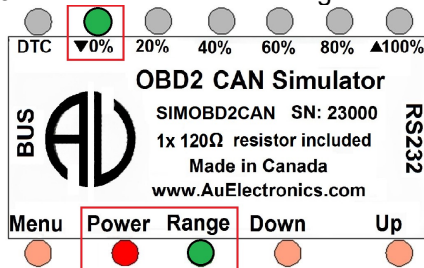

Figure 3-3
- If keep pressing **Up** button, the control step value will keep increasing. The 0% LED will be constantly on, as shown in Figure 3-3. This indicates a data range from 1 - 19%.